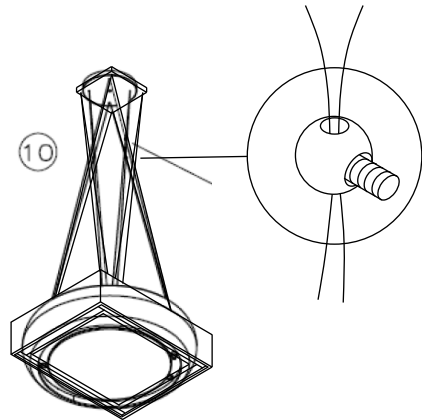

Fig 15
9. Turn alan key to tighten wires (Fig 15).